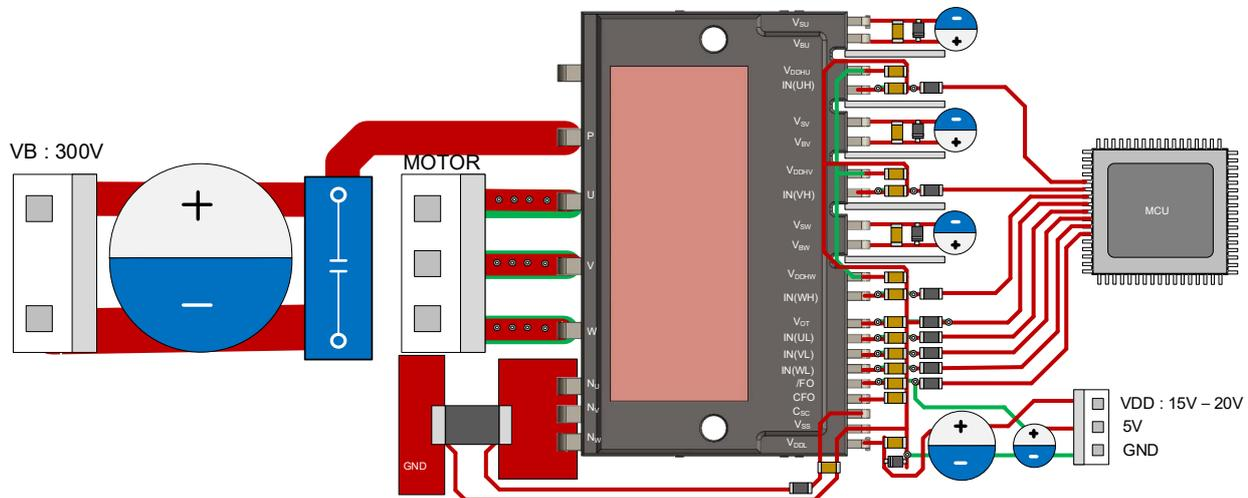

Fig. 31 Layout of Reference Board for 1-shunt Resistor
5. In order to accurately detect the voltage of the current sensing resistor, both sensing and ground patterns should be connected at the pins of the current sensing resistor and should not be overlapped with any patterns for the load current, as shown in Fig. 31.